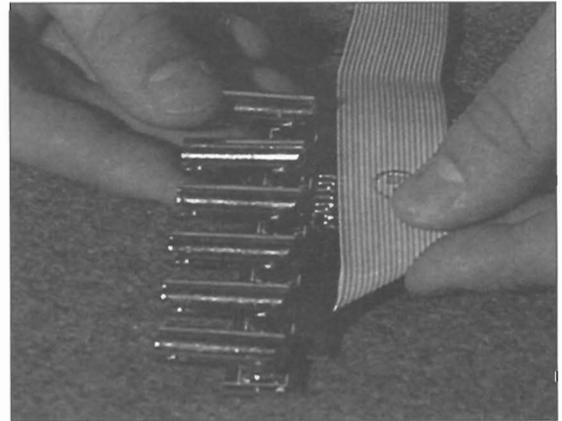

Figure 2
- 2 Folder the ribbon cable so that it crosses over itself and lies on top of the multi-pin connector beside it. Press the ribbon cable flat at the point where it bends. See Figure 2.